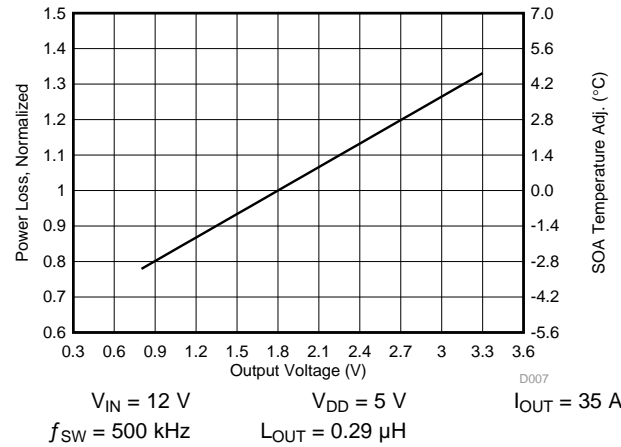

Figure 10. Normalized Power Loss vs Output Voltage
- Normalized power loss for output voltage  $\approx$  1.04 (Figure 10)
- SOA adjustment for output voltage  $\approx$  0.62°C (Figure 10)